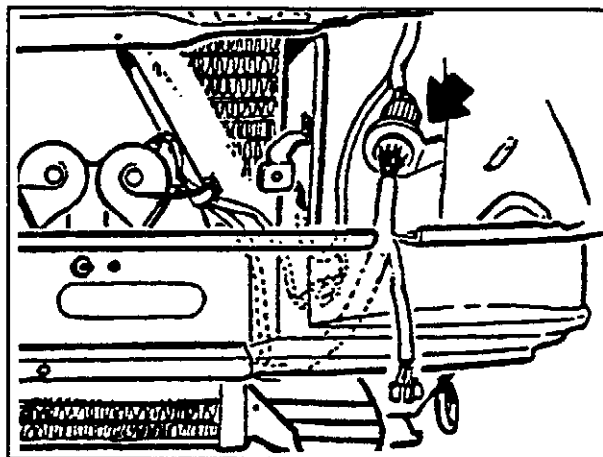

Figure 1. 24-pole connector near the left headlamp.
1. Unplug the 24-pin connector (H24-2) behind the LH headlamp and disconnect the blue lead (881 BU 0.5) from position 7. Refer to Figure 1.